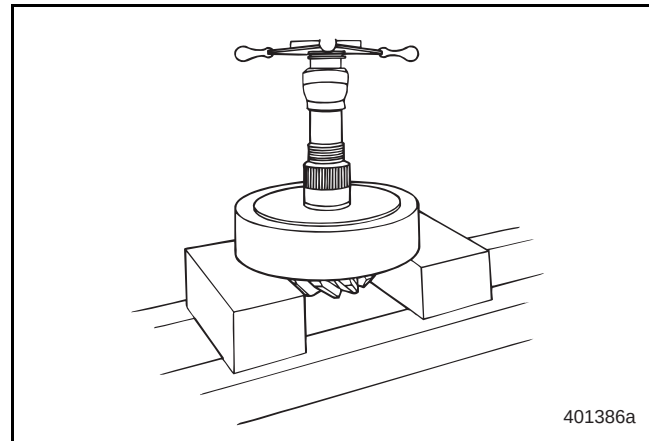

Figure 97 — Pressing Bearing off Bevel Pinion
8. If the bearings on the bevel pinion must be replaced, remove them using a hydraulic press and the appropriate segment and adapter rings. Press the bearing off the front bevel pinion as shown in Figure 97. Refer to the Special Tools Chart on page 130 for the correct segments and adapter rings.